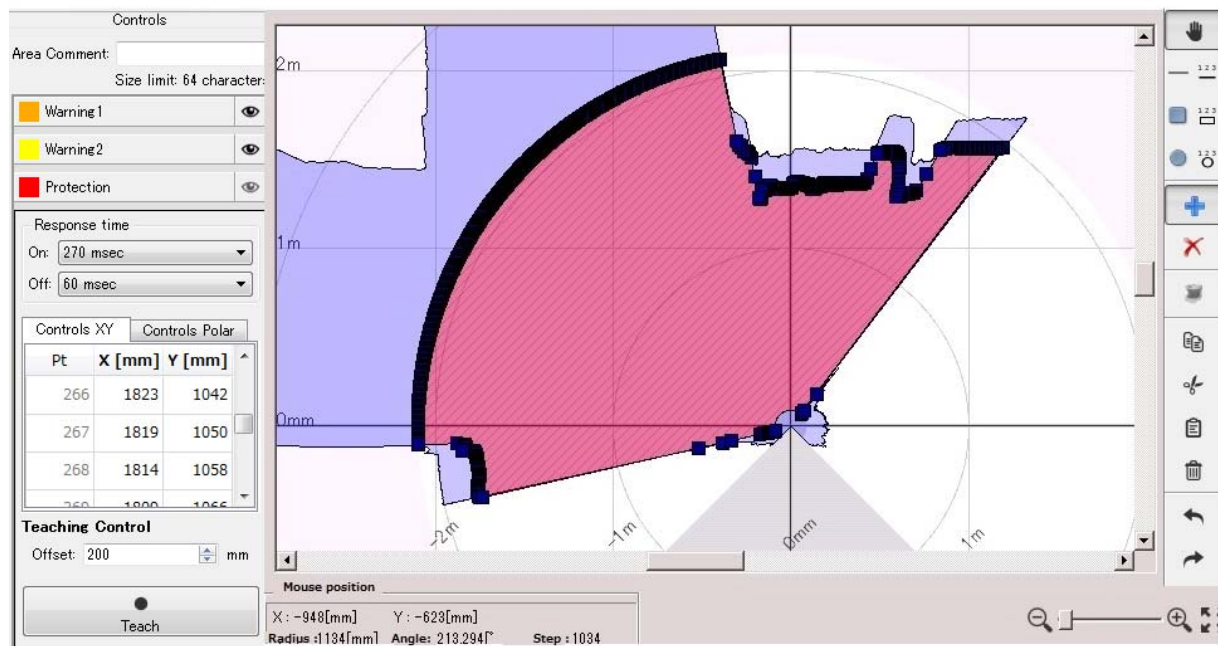

Figure 7-44 Area configured by teaching
- Obtaining the background data starts when the "Teach" button is clicked. Configured area will resemble the SE2L's background. (Figure 7-44). When configuring the protection zone, if the background is not within the maximum detection distance it is set to maximum detection distance of SE2L. In case of warning area, if there is no background within 20m from SE2L it will be set to 20m.